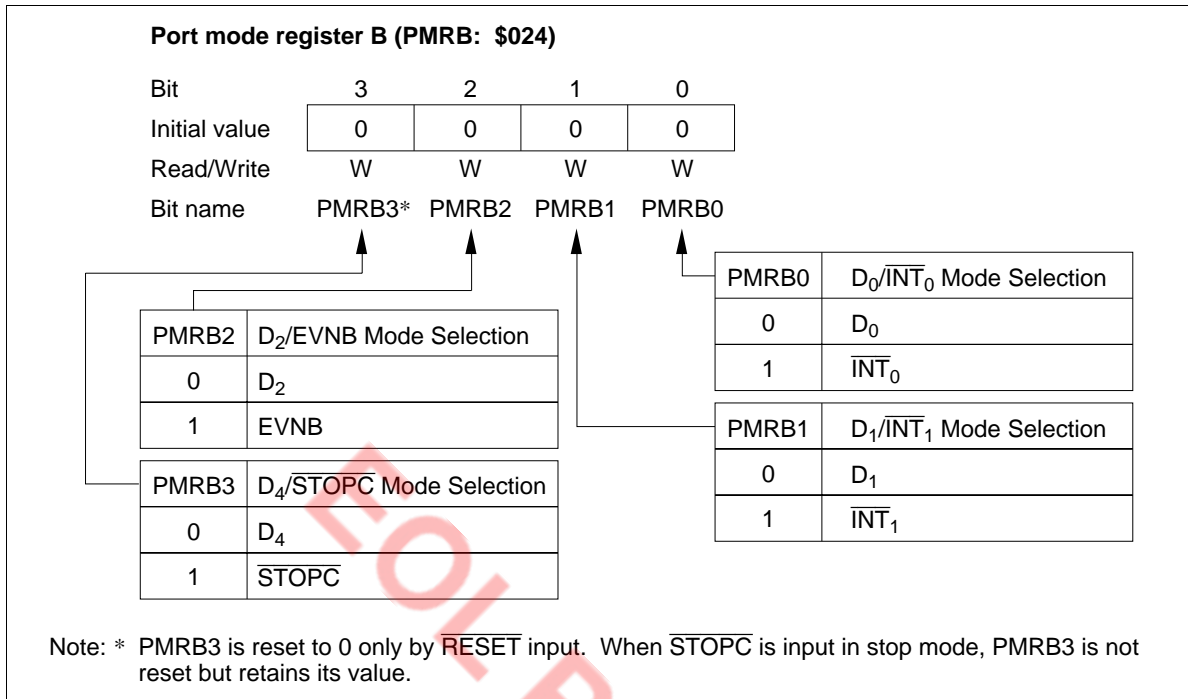

Figure 39 Port Mode Register B (PMRB)
- Port mode register B (PMRB: \$024): Write-only register that selects D2/EVNB pin function as shown in figure 39. It is reset to \$0 by MCU reset.